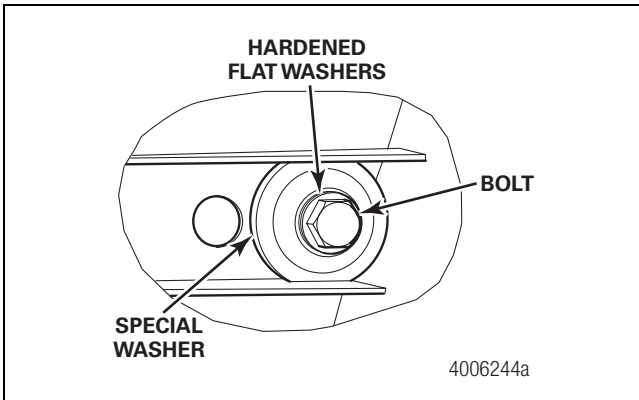

Figure 21
10. Place the inside washers into position. Ensure that the washers are tight against the bottom and all the way against the gusset plate. Install a bolt through the frame bracket and loosely tighten the bolt. This will ensure that the inner washer is held firmly in place. Figure 21. If you overtighten the bolt, it will be difficult to reinstall the upper control arm.